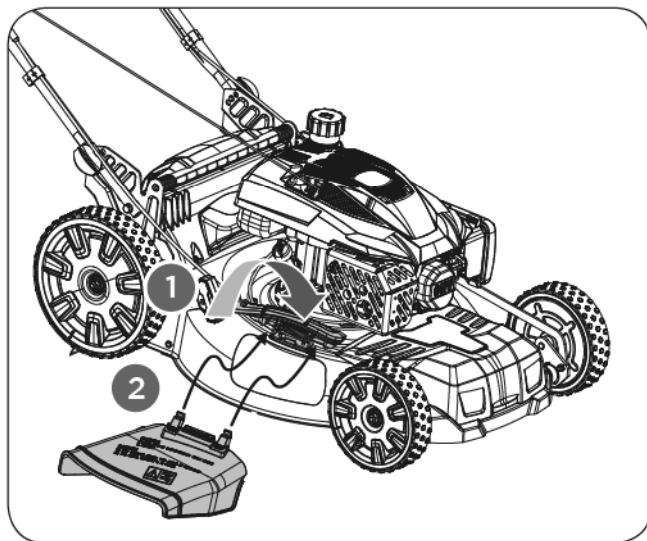

Figure 4
1. Lift the mulch cover on the side of the mower. (See **Figure 4, Illustration 1**)
2. Slide the two hooks of the side discharge cover under the hinge pin on the mulch cover assembly. Lower the mulch cover. (See **Figure 4, Illustration 2**)